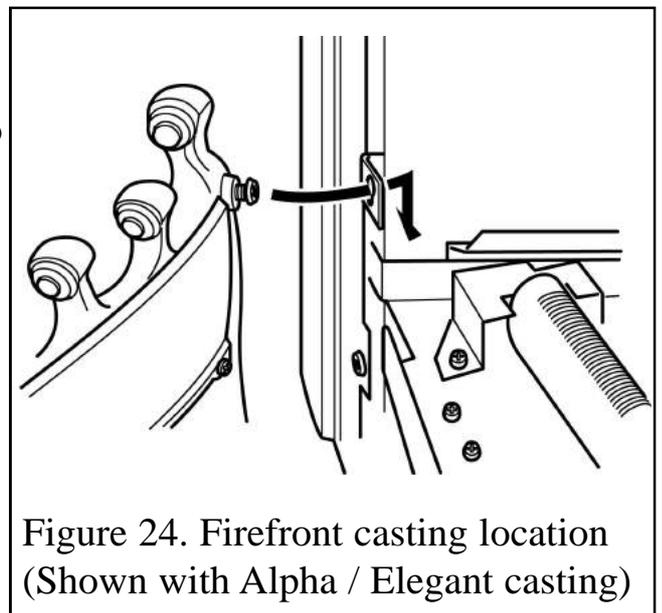

Figure 24. Firefront casting location (Shown with Alpha / Elegant casting)
that it rests on the hearth (See figure 24).
2. Locate the two screw heads through the keyhole slots at the inner sides of the fascia. If the screw heads do not project enough or project too far, the screws can be adjusted. Lower the casting so that it rests on the hearth (See figure 24).